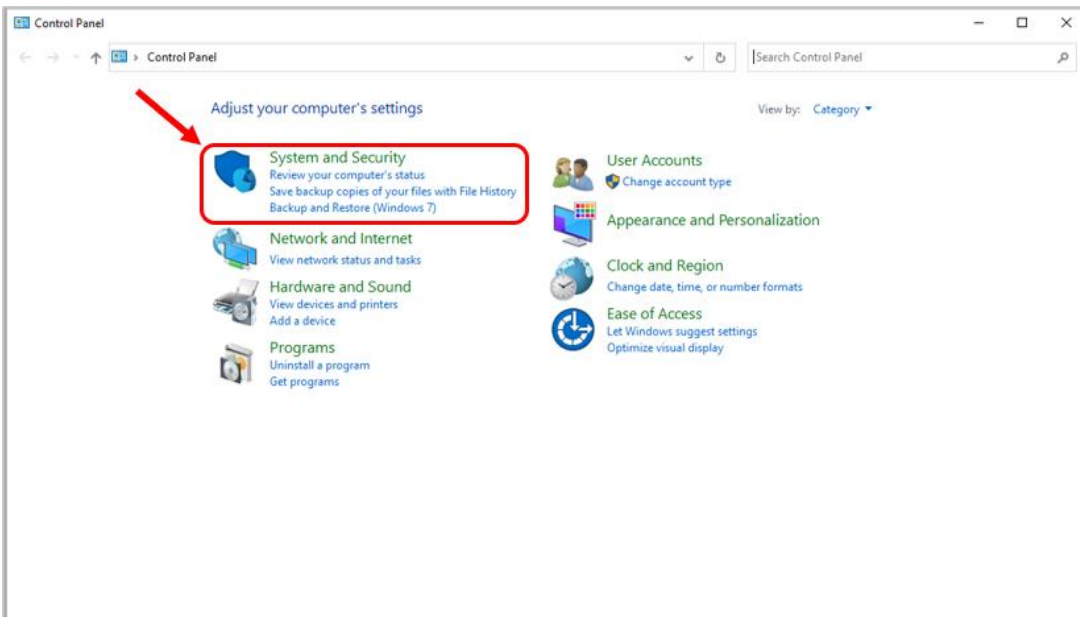

Fig. 13 Control panel.
- Press Start and Select **Control Panels** (Fig. 13)